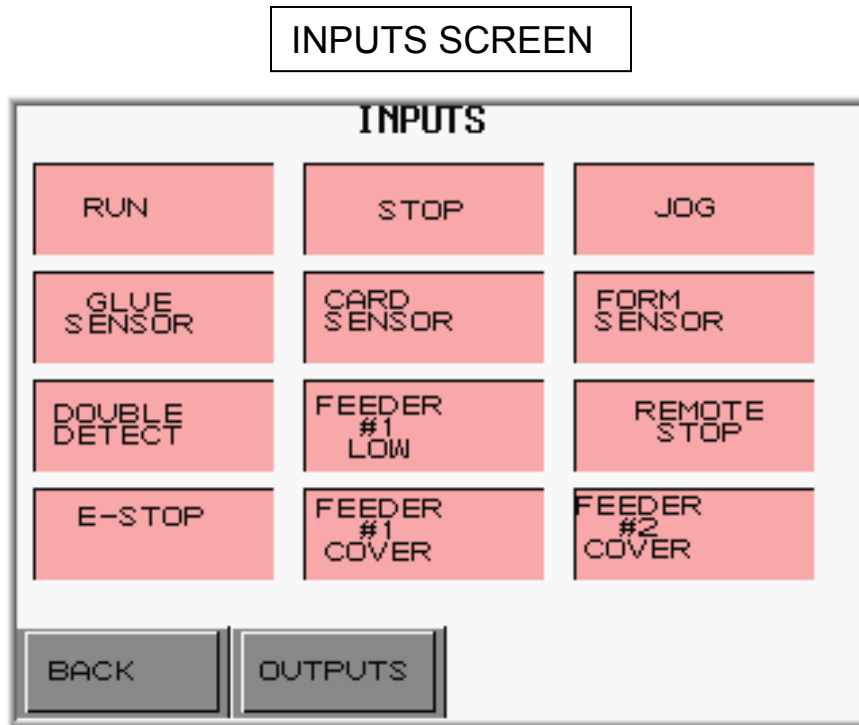

Figure III-22
7. The **INPUTS** SCREEN is now displayed on Human Machine Interface (HMI). See figure III-22.